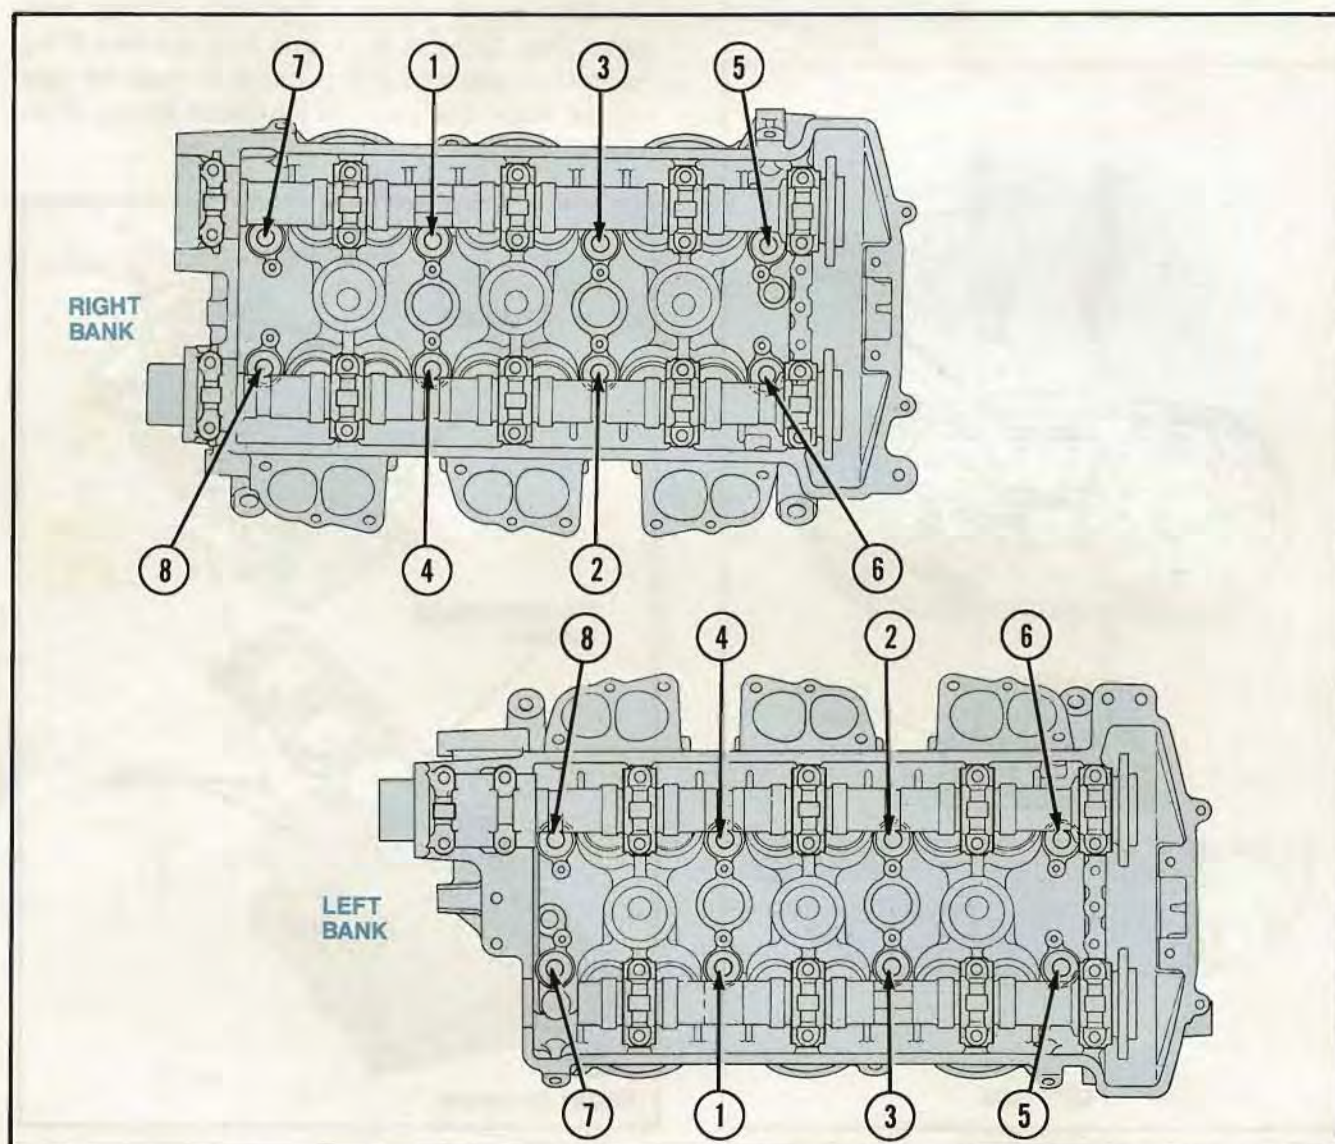

Figure 121. Cylinder Head Torque Sequence
4. Install the cylinder head bolts and washers and tighten them in two steps (Fig. 121):